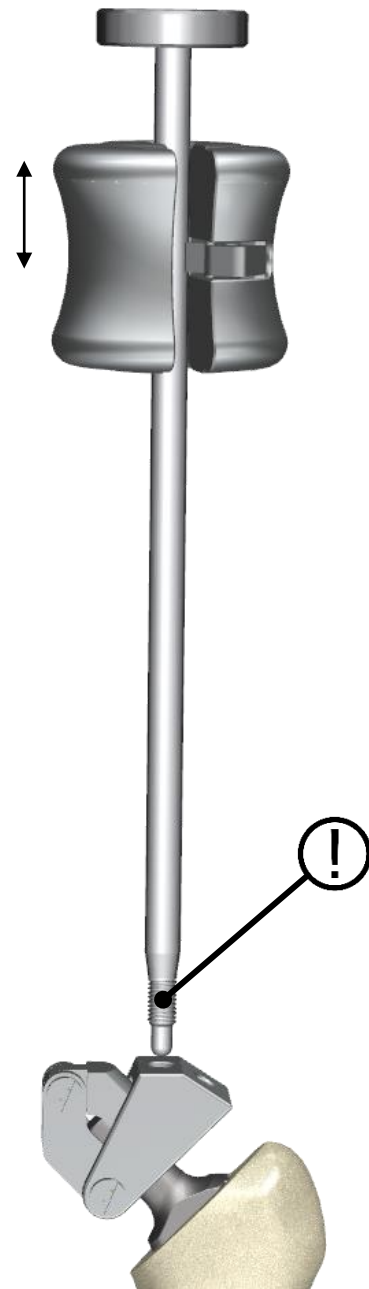

Figure 4: Stem extractor with Extractor Bar M8 and Modular Weight in necessary alignment to the implant
- Connect the *Modular Weight* to the *Extractor Bar M8* (Figure 4).